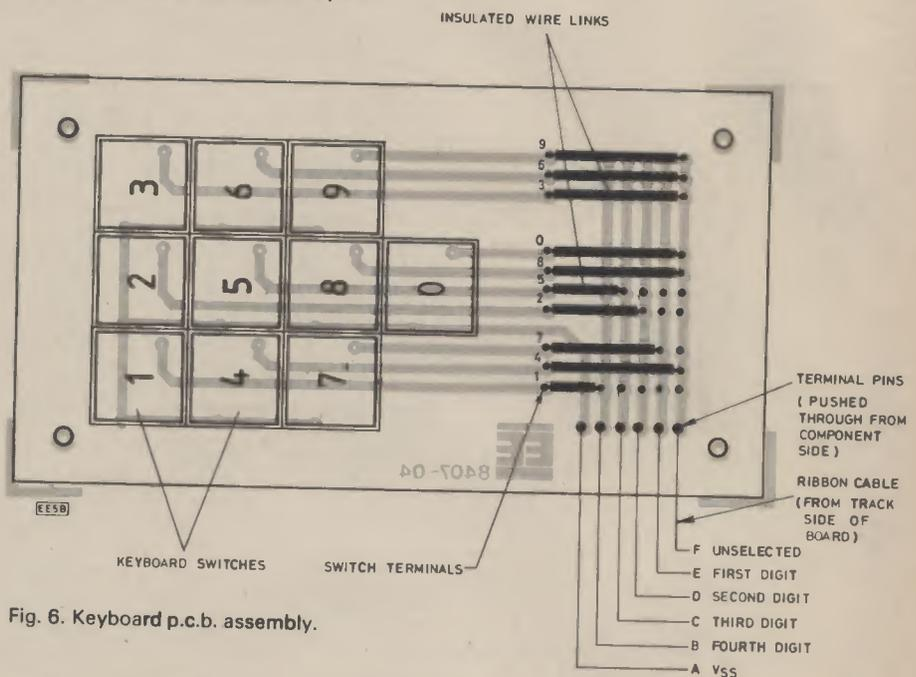

Fig. 6. Keyboard p.c.b. assembly.
**SETTING THE CODE:** The keyboard p.c.b. is assembled simply by soldering S2-S11 in position. The code is set using the method illustrated in Figure 6. This shows the wiring matrix of the keyboard viewed from the component side. The switch terminal corresponding side. The switch terminal corresponding to the first digit of the code, in this case 7, is connected by an insulated wire link to the copper track E. In the same way, the switch terminal for the second digit (2) is connected to copper track D, the third digit (5) to track C, and the fourth digit (1) to track B. This sets the code 7251. However, any combination using four different switch terminals can be set, so that constructors can choose from  $10 \times 9 \times 8 \times 7 = 5040$  different codes. It is a simple matter to reset the code from time to time by rewiring the matrix.